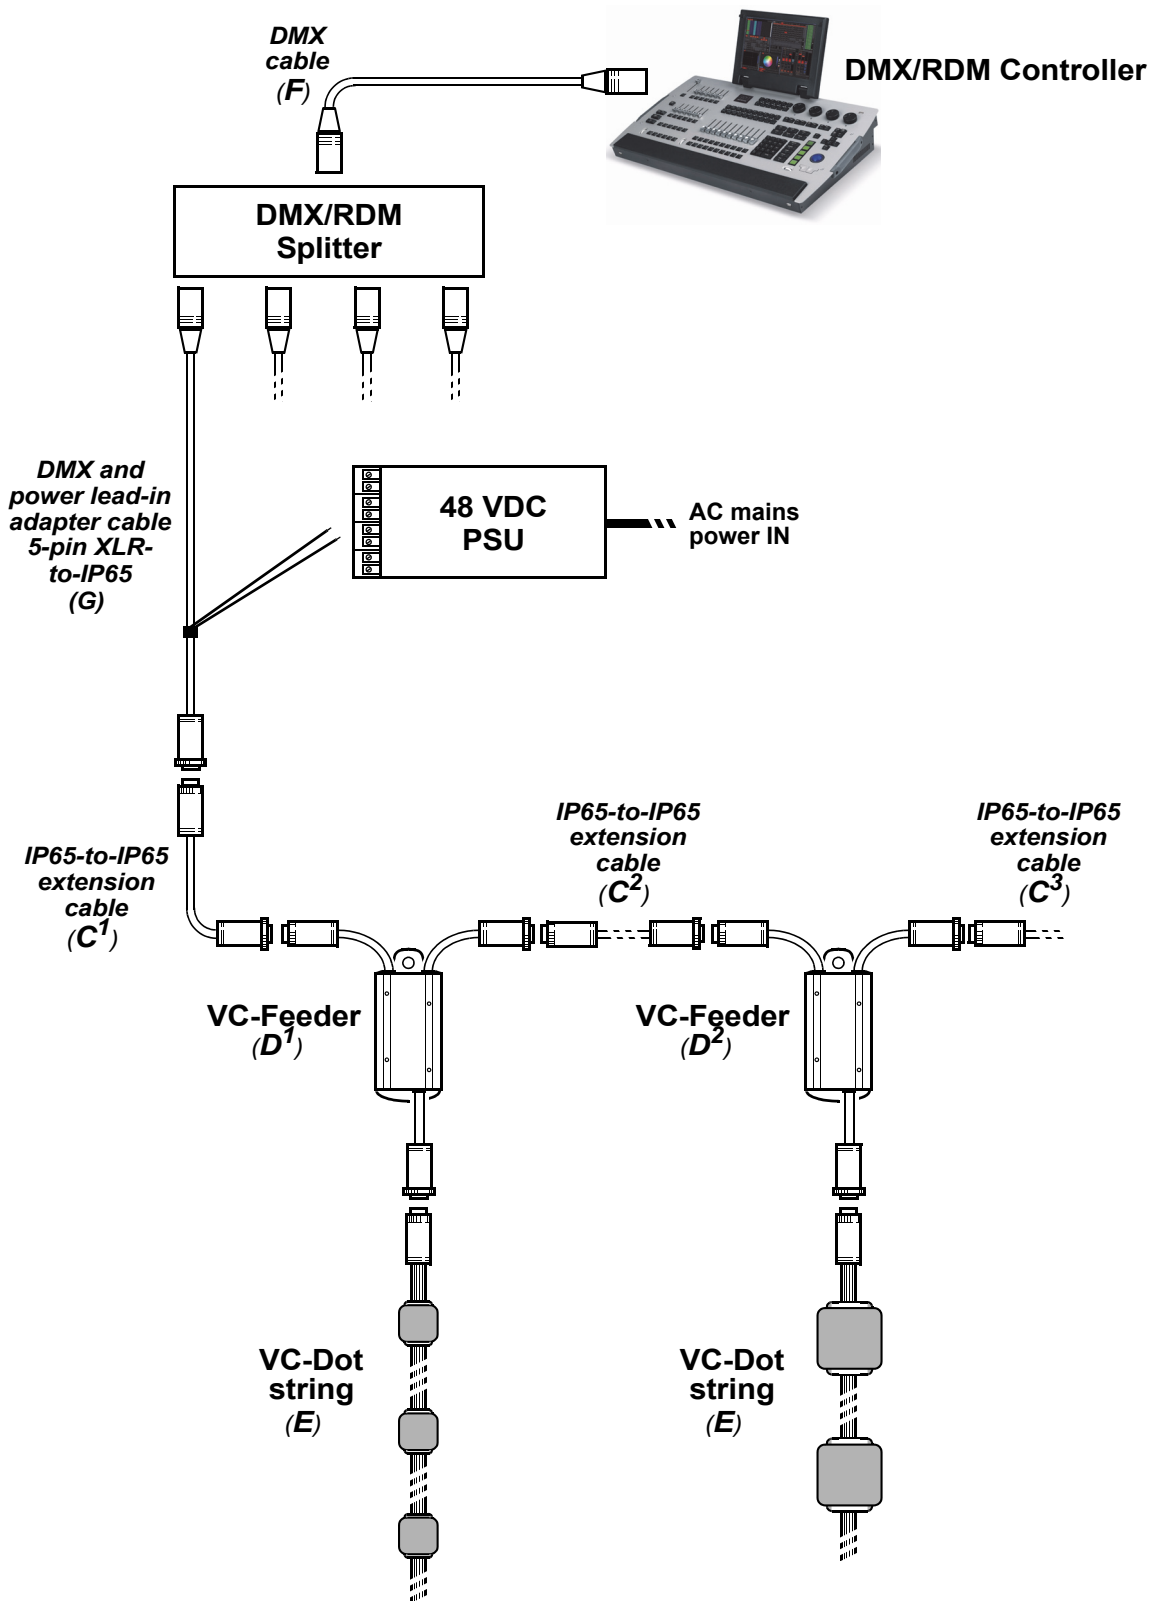

Figure 3: DMX system layout
Good-quality DMX cable is required for the DMX data link (see **F** in Figure 3). The link can be maximum 300 m (1000 ft.) in length from the first device to the last device on the link, but this can be extended using an amplifier/splitter such as the Martin RDM 5.5 Splitter™, P/N 90758150.
4. See Figure 3. Run a DMX cable **F** from a DMX/RDM controller such as the Martin M1™ or M-PC™ to a Martin RDM 5.5 Splitter (P/N 90758150).